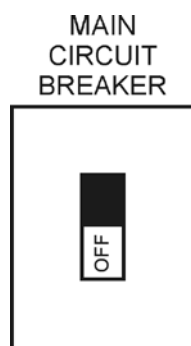

Figure 14. Main Circuit Breaker (OFF)
1. Place the main circuit breaker (Figure 14) in the **OFF** position prior to starting the engine.